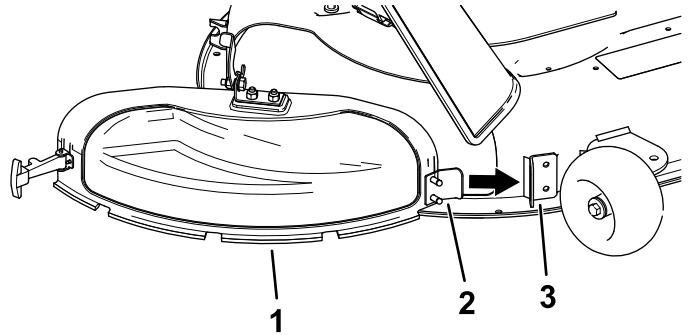

Figure 13
3. Angle the metal tab on the discharge cover into the slot in the bracket welded to the mower deck (Figure 13).